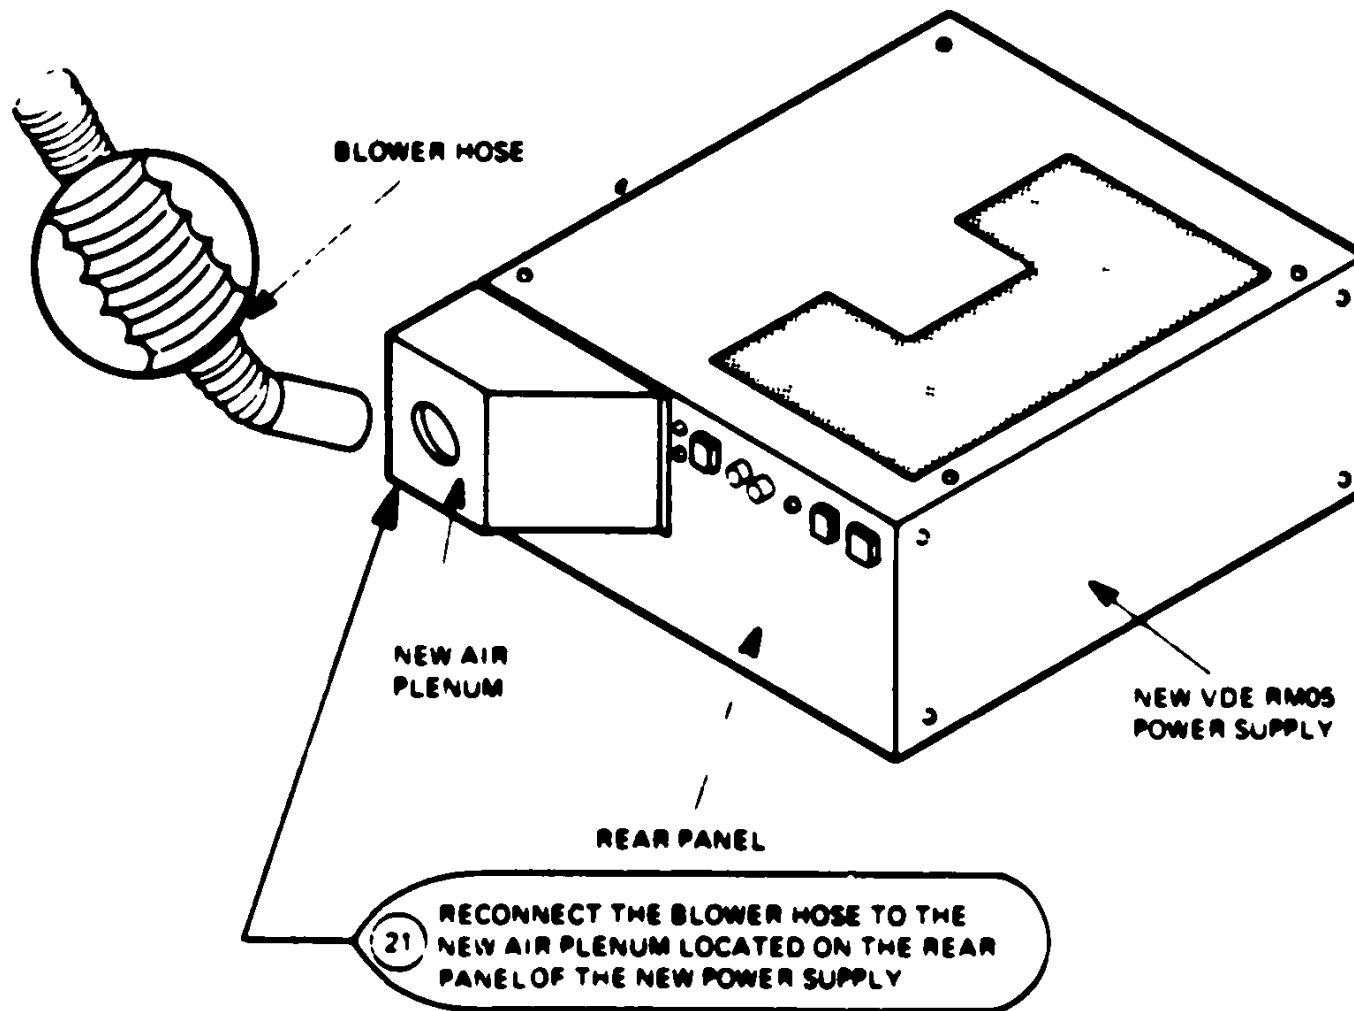

FIGURE 10 VDE RM05 POWER SUPPLY (REAR VIEW)
21. Re-connect the blower hose to the "new air plenum" located on the rear panel of the new power supply. (See Figure 10)